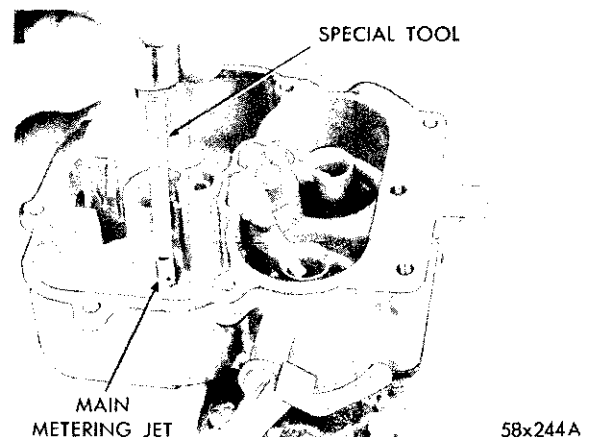

Fig. 8—Removing or Installing Main Metering Jets
(9) Remove the main metering jets and gaskets, as shown in Figure 8.
(6) Install the main metering jets and gaskets. Tighten securely. (Refer to Fig. 8).